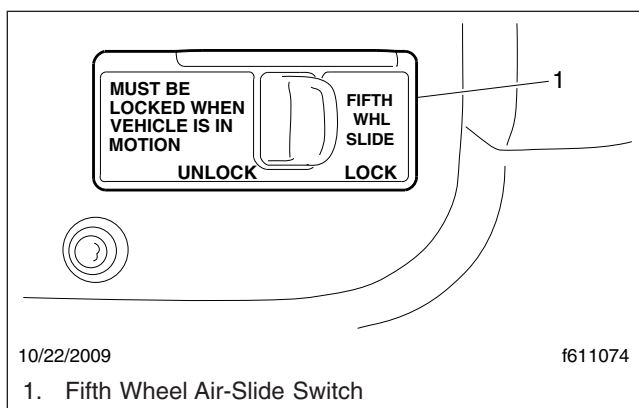
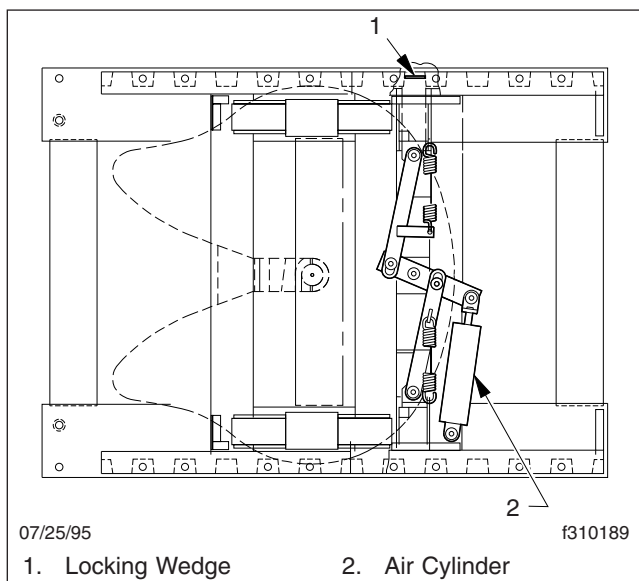

Fig. 17.8, Air-Slide Switch
Fig. 17.9, Air-Operated Sliding Fifth Wheel (Fontaine shown)
The slide feature may be operated with an air switch mounted in the dash, that operates an air cylinder that locks and unlocks the slide. See Fig. 17.8.
1. Set the air-slide switch (Fig. 17.8) to UNLOCK. Ensure the locking plungers have released. See Fig. 17.9.